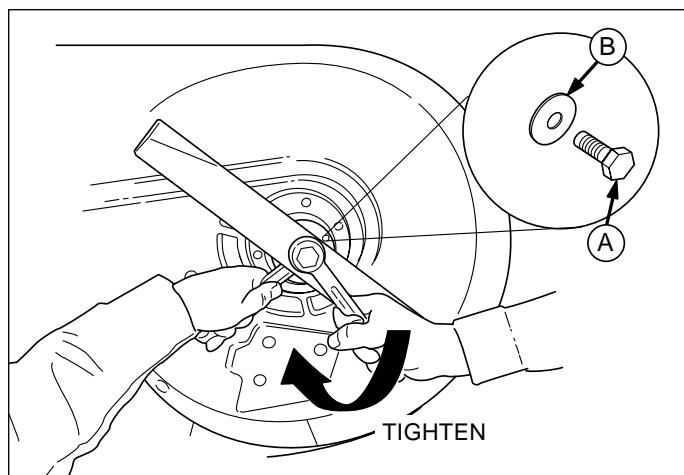

Figure 15. Installing The Blade
5. Reinstall each blade with the tabs pointing up toward deck as shown in Figure 15. Secure with a bolt and flat washer and torque bolts to 70 ft.lbs. (94 N.m.).